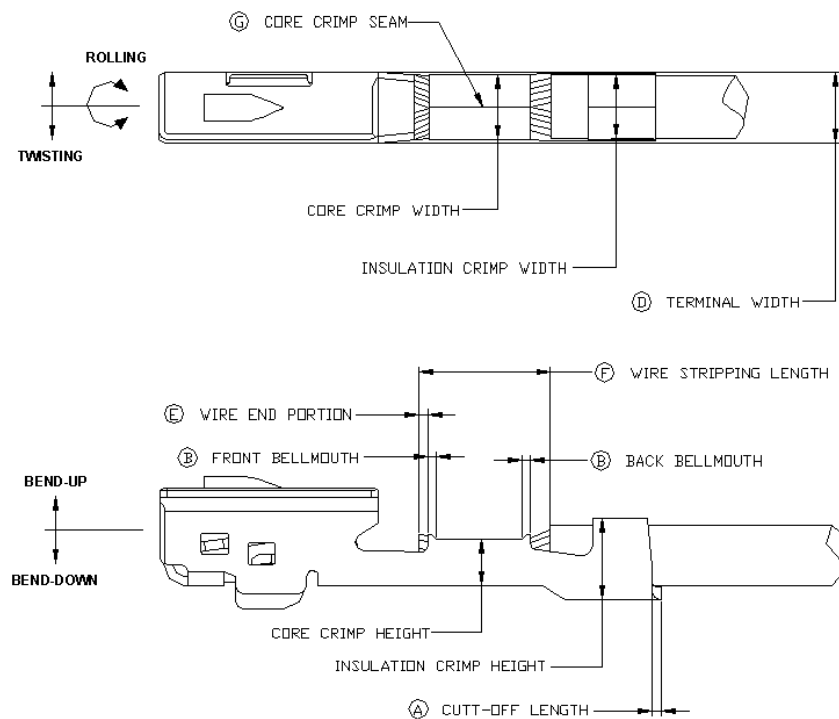

Figure 13. Part Description of Crimped Female Terminal
(1) Refer to Figure 13 for description labels.